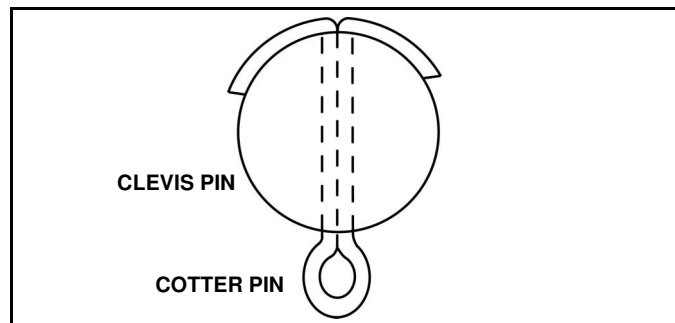
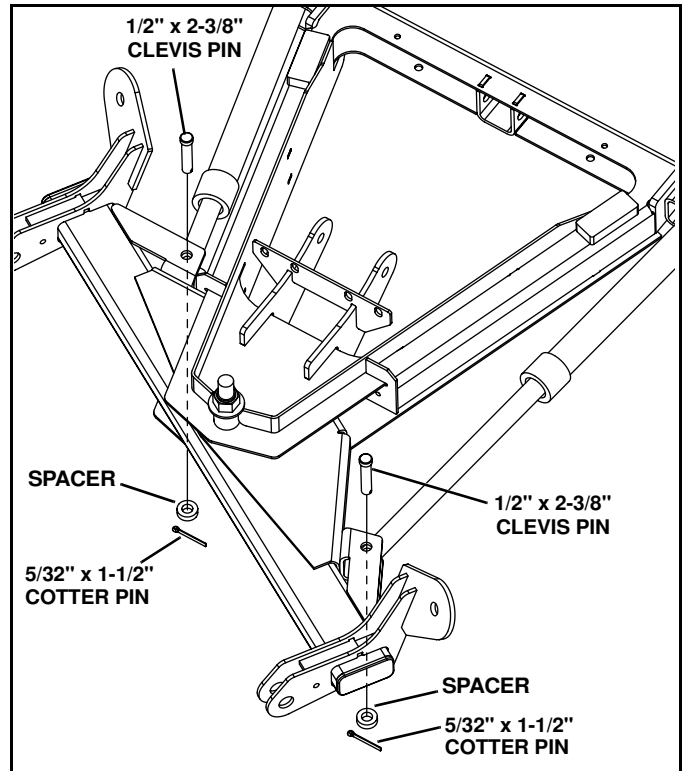

Figure 2-3
Figure 2-6
*NOTE:* Note: Make sure cotter pins are properly bent or pins may work loose. (See Figure 2-3)
2. Remove cotter pins and 1/2" clevis pins from rod end of cylinders. Extend cylinders by pulling on rod end of cylinder. Insert 1/2" clevis pins and secure with spacers and cotter pins. (See Figure 2-6) Bend cotter pin as shown in Figure 2-3 to prevent it from working loose.